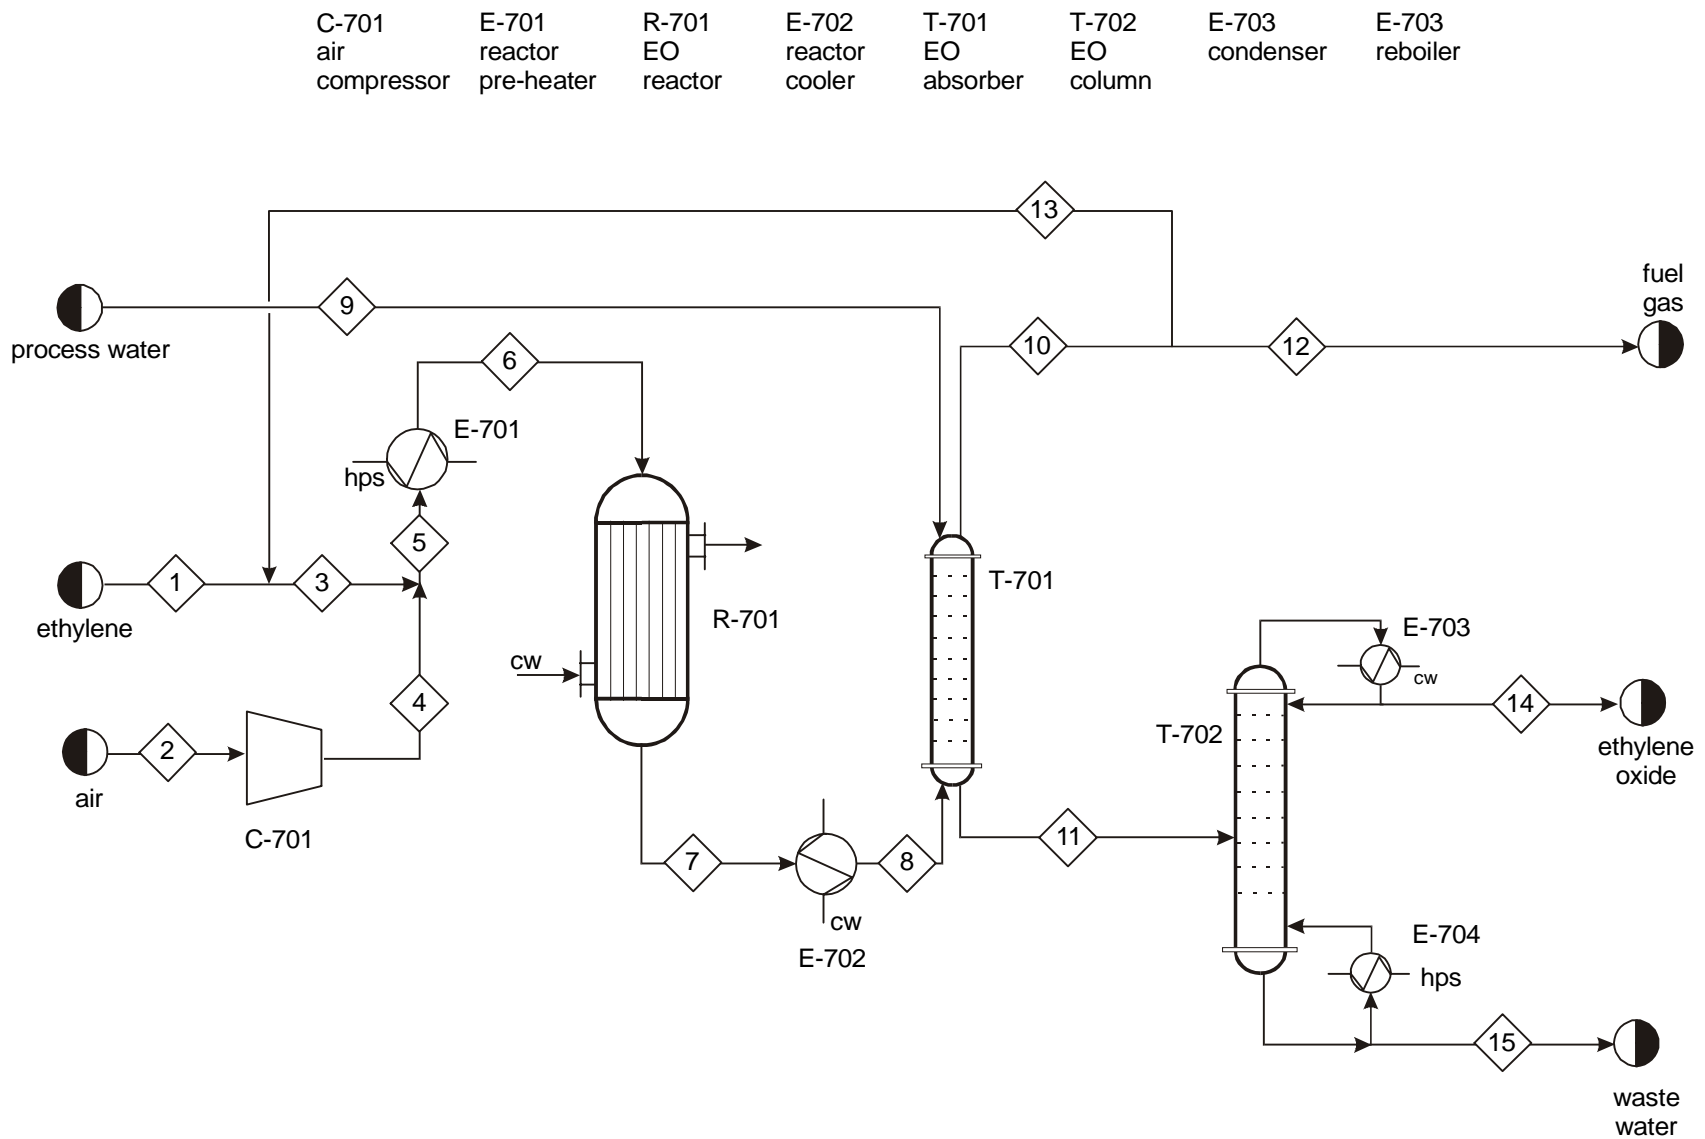

Figure 1: Process Flow Diagram for Ethylene Oxide Production
Figure 1 is a preliminary process flow diagram (PFD) for the ethylene oxide production process. The raw material is ethylene, which may be assumed to be pure. Air is compressed in C-701 and mixed with the feed. The mixed feed is heated, vaporized, and superheated in a heat exchanger (E-701); and is then sent to the reactor (R-701) in which ethylene oxide (EO) is formed. The reactions that occur are shown later. The reactor effluent is cooled and partially condensed in a heat exchanger (E-702), and it is then sent to the separation section. In T-701, water is used to absorb the EO from the reactor effluent stream. The water and EO are then sent to a distillation column, T-702, where “pure” EO is produced in the top stream (distillate), with water in the bottom stream (bottoms). In T-701, the vapor stream leaving the top contains ethylene for recycle. However, nitrogen must be purged. The desired EO production rate is 100,000 tonne/y.